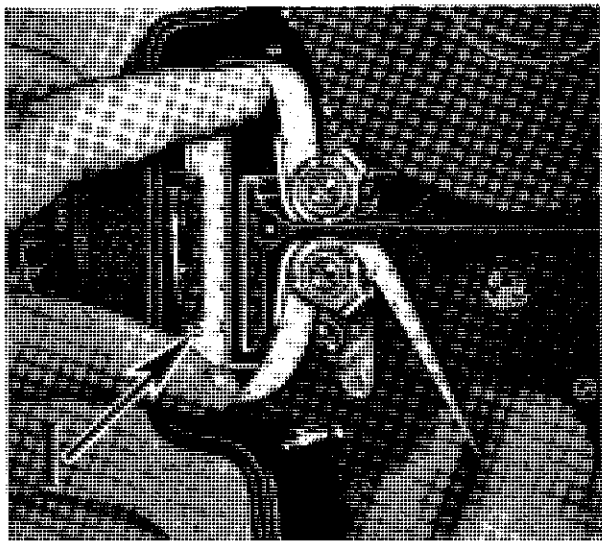

Figure 8
9. Engage a pair of perforations with the two shuttle teeth I, Figure 8, at the bottom of the aperture plate.